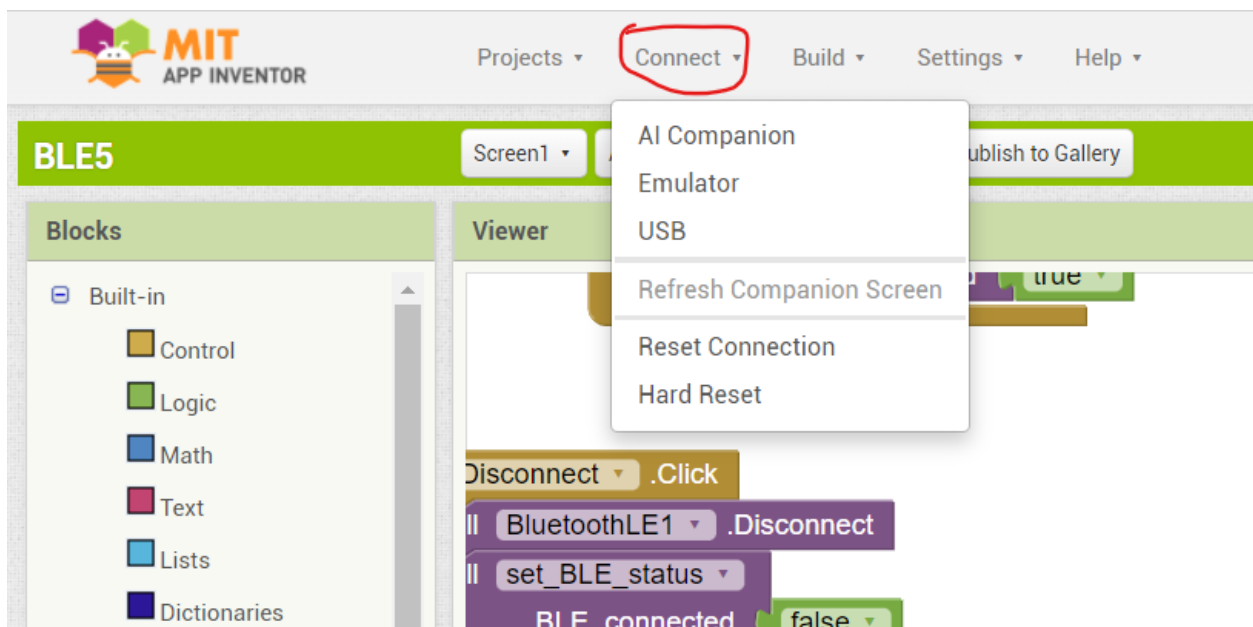

Figure 2: Connect to Phone through AI Companion in Connect Dropdown
5. Pair phone with computer’s MIT App Inventor online sketch (refer to Figure 2, 3 and 5)